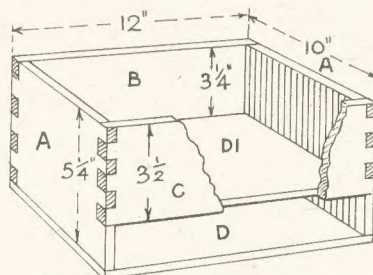

Fig. 1—The building of the box frame
The size of the box overall is 12 $\frac{1}{2}$ ins. by 10 $\frac{1}{2}$ ins. wide and 5 $\frac{3}{4}$ ins. deep. Wood $\frac{1}{4}$ in. thick is used throughout and the lock joint used at all corners, as shown in Fig. 1. If the worker should, on the other hand, decide to adopt the plain butt joint and nails, then he must strengthen the whole construction by gluing in the angles of the box and elsewhere, some angle fillets either quarter round or plain triangular angle fillet.
Now cut the floor (D) 12ins. by 10ins. and glue this to the frame, putting in a few fret pins to hold the piece flat while the glue is hardening. The upper floor (D1) is now added. This measures 11 $\frac{1}{2}$ ins. by 9 $\frac{1}{2}$ ins., dropped in to a depth of 3 $\frac{1}{2}$ ins. from the top of the frame, as seen in Fig. 1. One or two flat screws or